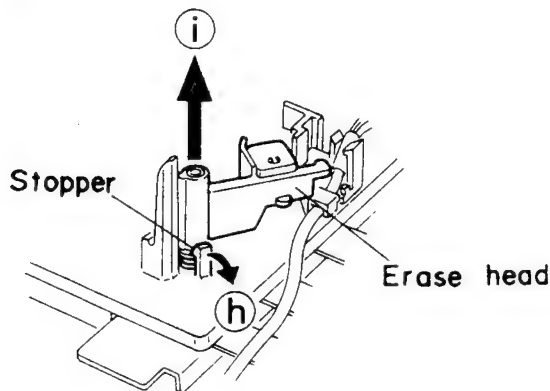

Fig. 5-22
■ Removing the Record/Playback head & Erase head (See Figs. 5-22, 23)
1. Remove two screws (③, ④) retaining the Record/Playback head.
2. Pull out the stopper of the Erase head in the direction of the arrow ③.
3. Pull out the Erase head in the direction of the arrow ④.
14. Pull out all of the three stages of CD tray assembly in the arrow direction (E) until these stages stop (See Fig. 5-22).